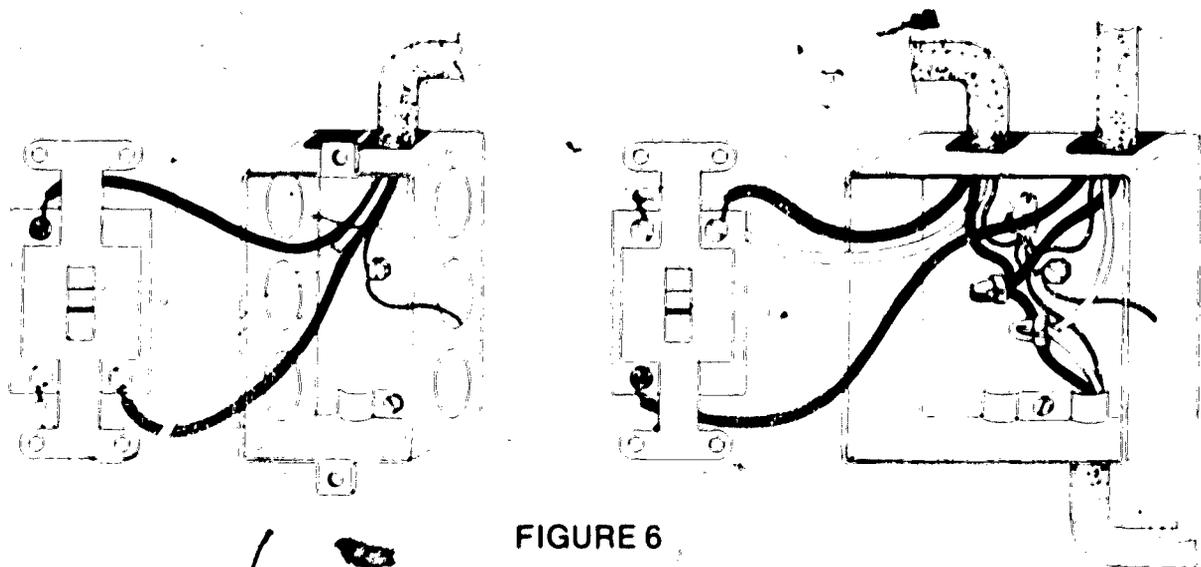

FIGURE 6
M. Install switches (Figure 6)